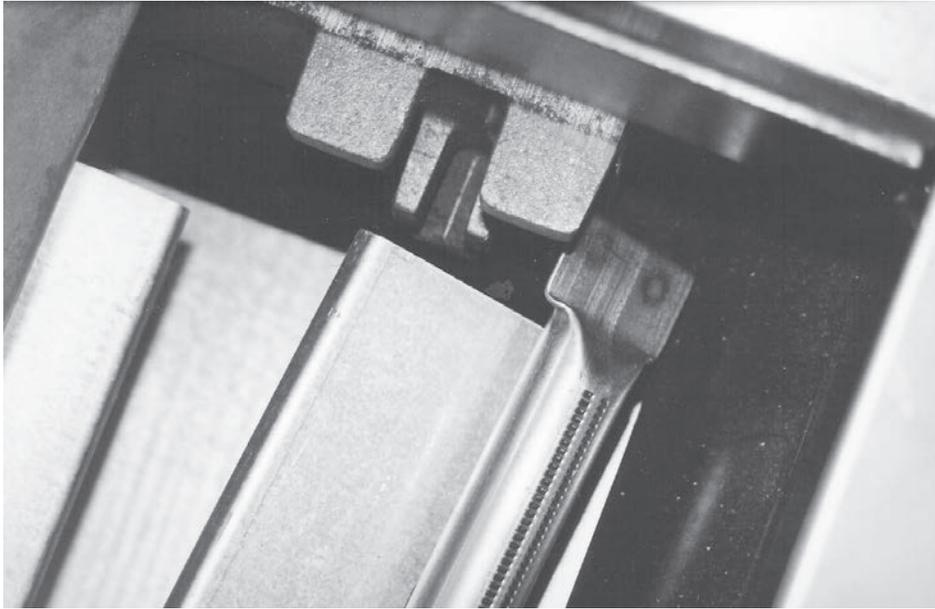

Fig. 13
4. Twist the burner/deflector assembly to the right and lower the back down to clear the burner/radiant support foot. (Fig. 13)